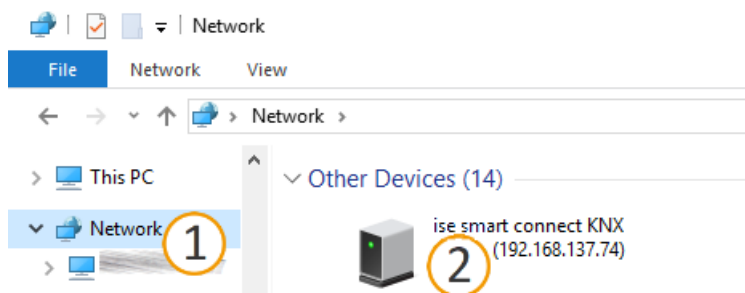

Figure 16: Accessing the device website via the network environment
- Alternatively, select the device in the network environment category <<Other devices>> (see figure 16, item 1): Double click on the device icon (see figure 16, item 2).